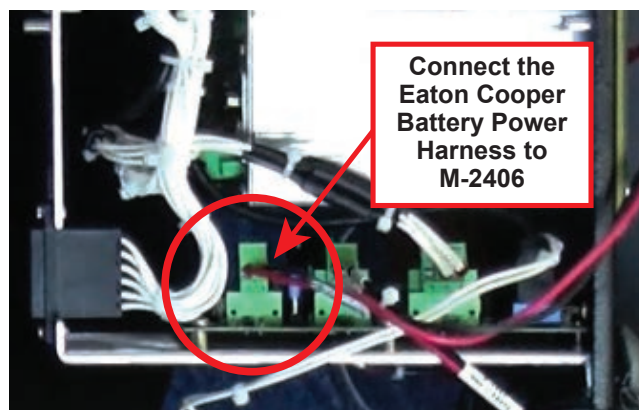

Figure 17 M-2035 Module – Battery Power Input
1. The saved Eaton Cooper Battery Power harness must be installed onto the M-2406 Adapter Chassis prior to installation. Place the M-2406 Adapter Chassis face down to allow access to the M-2035 Module. Connect the 2-pin Phoenix connector to the battery power input plug on the M-2035 Module (Figure 17).